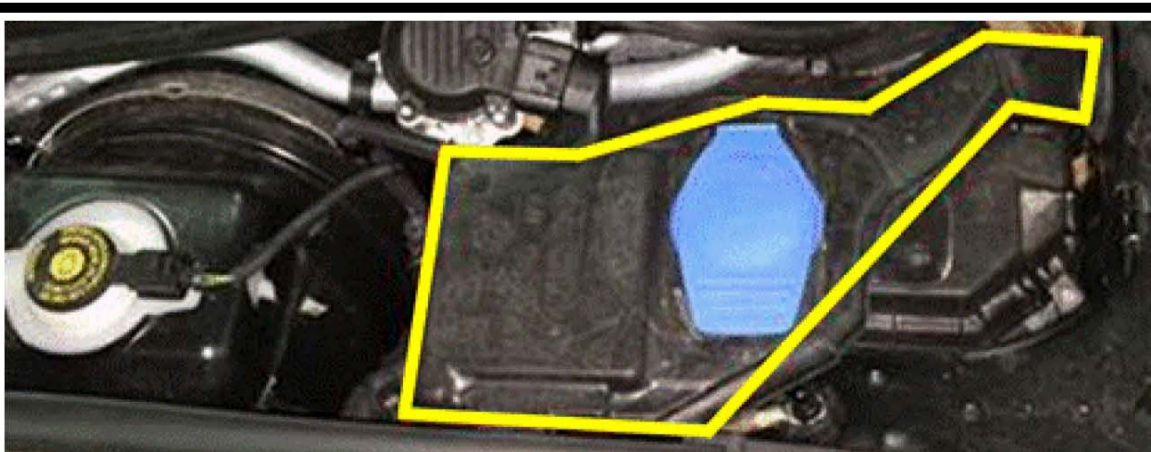

Figure 3. Washer reservoir filler neck.
4. Remove the washer reservoir filler neck (Figure 3).